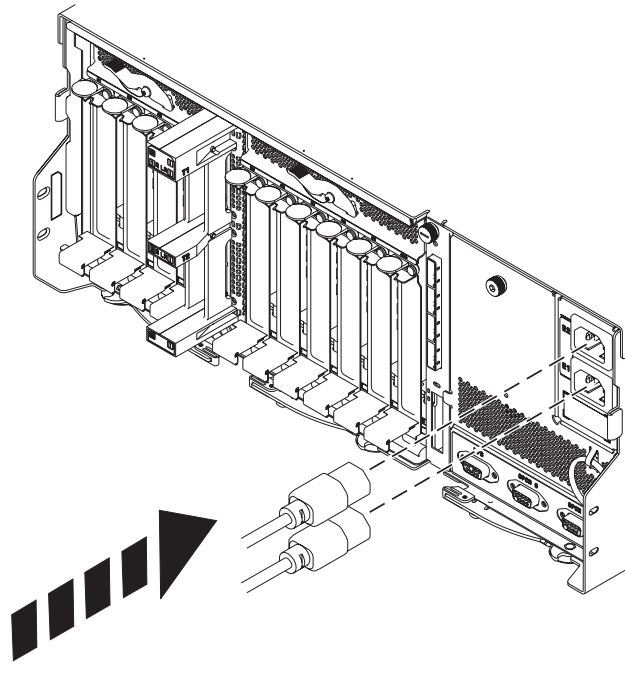

Figure 33. Connecting the power cables at the rear of an expansion unit
7. At the rear of the expansion unit, connect both of the power cables, as shown in Figure 33.